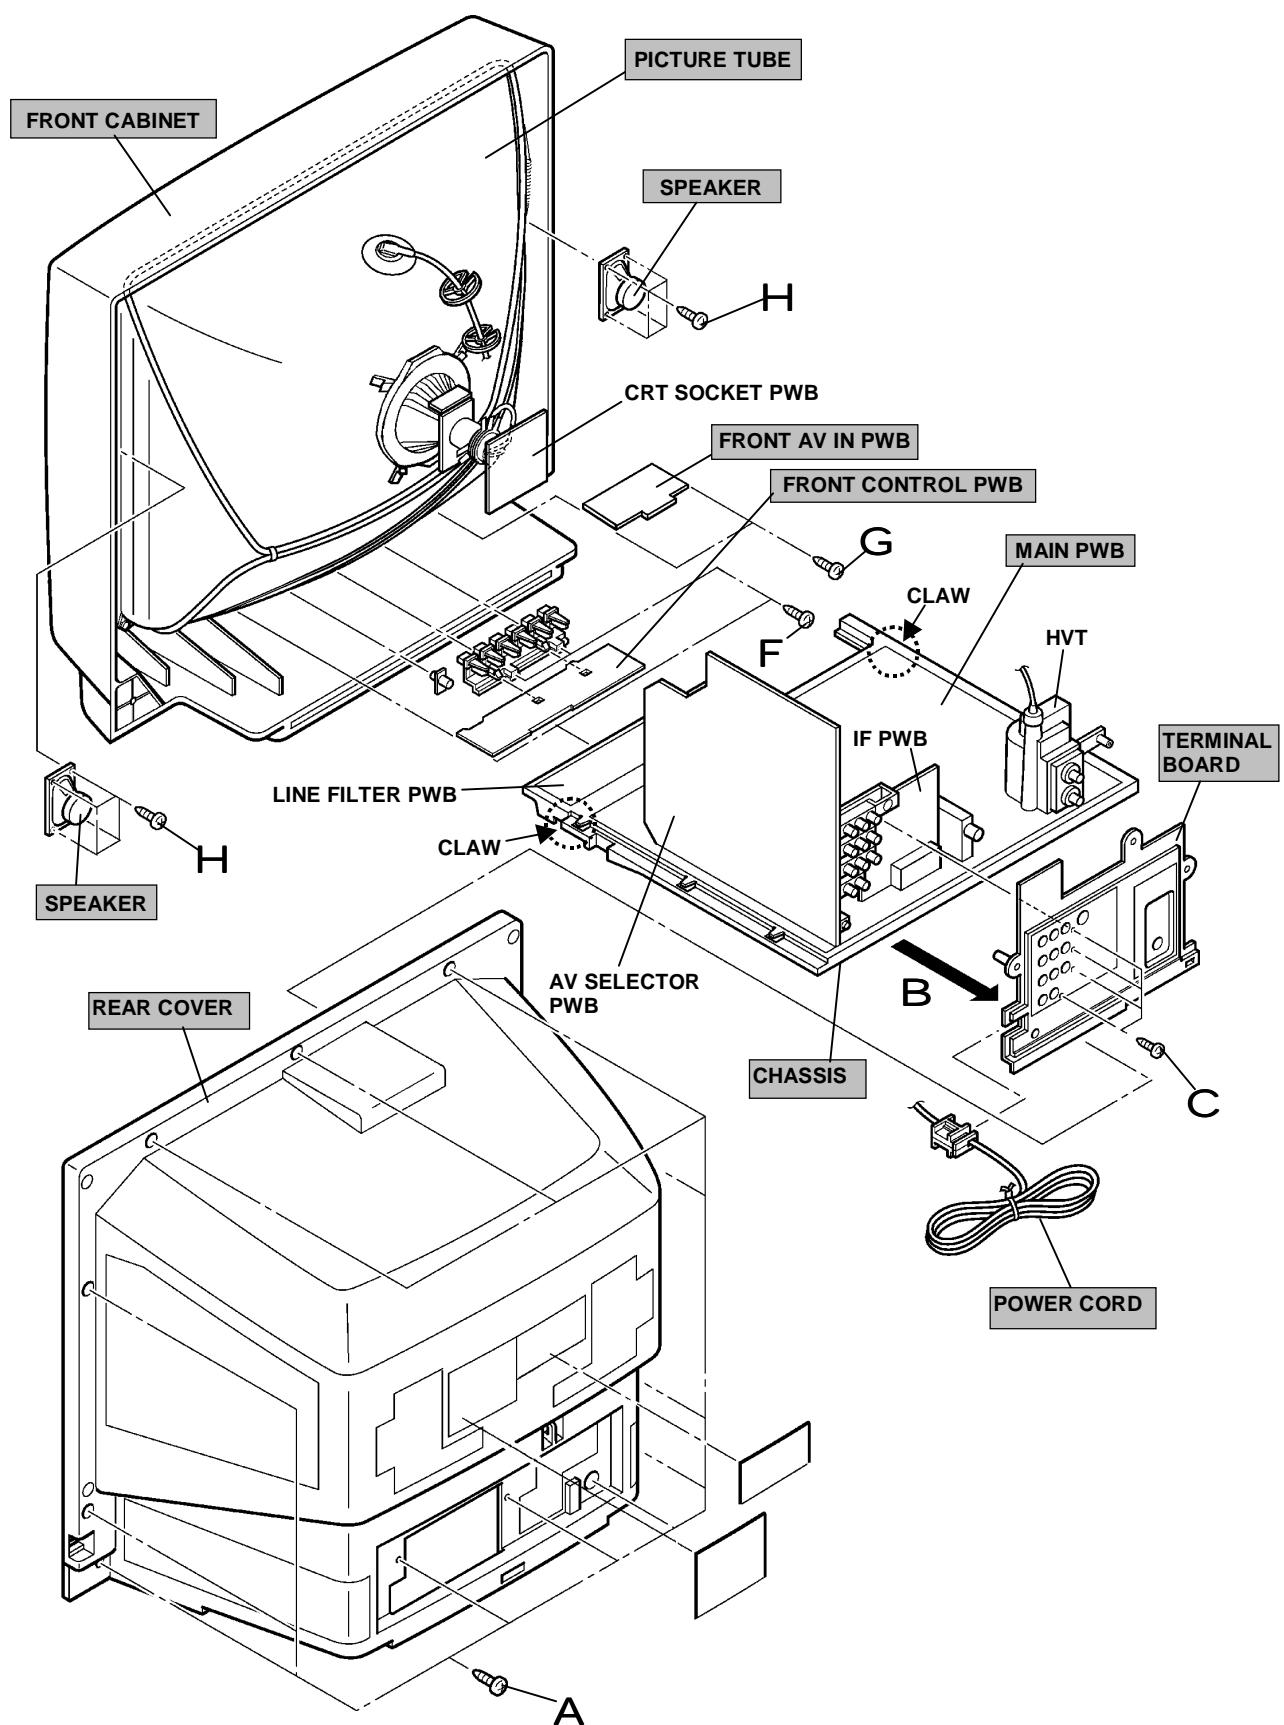

Fig. 2
- 1. Remove the **12** screws marked **A** as shown in Fig.2.
- 2. As shown in the Fig.2, withdraw the chassis backward along the rail in the arrow direction marked **B**.
- 1. As shown in Fig.2, remove the **4** screws marked **C**.
- 1. As shown in Fig.2, remove the **3** screws marked **F**.
- 1. As shown in Fig.2, remove the **2** screws marked **G**.
- 1. As shown in Fig.2, remove the **4** screws marked **H**.